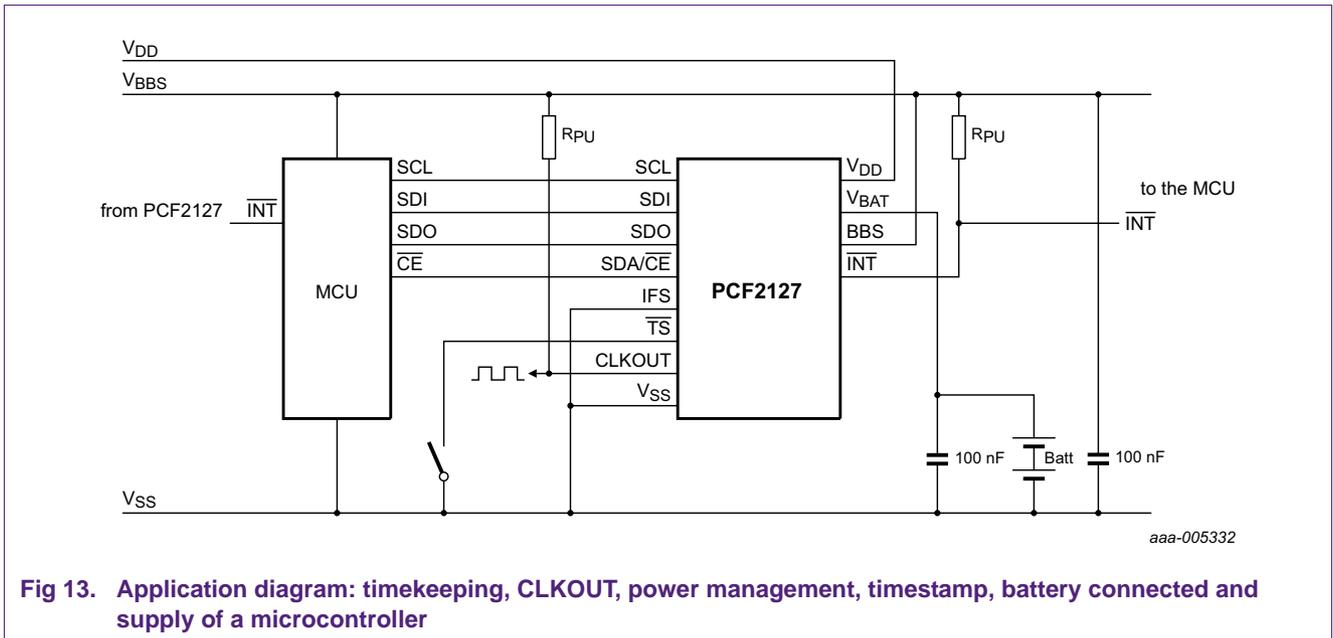

Fig 13. Application diagram: timekeeping, CLKOUT, power management, timestamp, battery connected and supply of a microcontroller
For using the PCF2127 for timekeeping, power management, CLKOUT with a battery connected and supplying a microcontroller, see Figure 13:
- BBS supplies a microcontroller (see Figure 13)